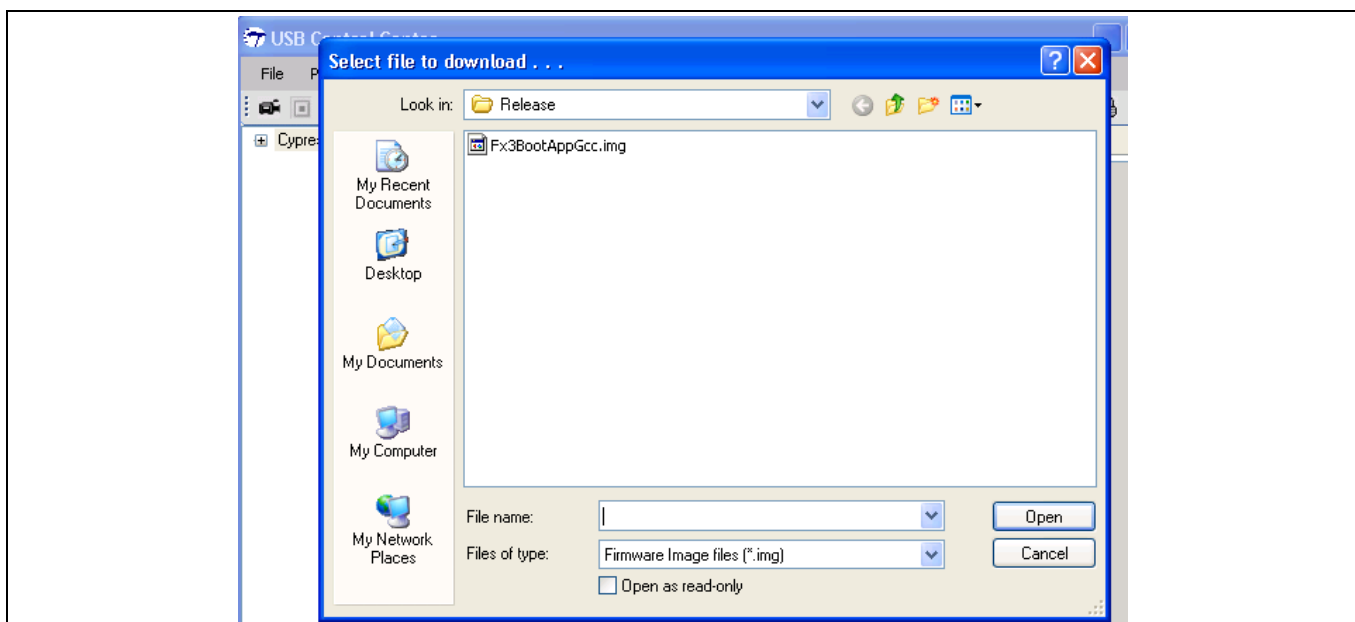

Figure 18 Select .img file
5. Next, browse to the *.img* file to be programmed into the FX3 RAM. Double-click on the *.img* file, as shown in Figure 18.